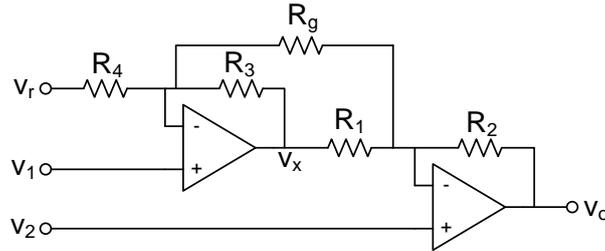
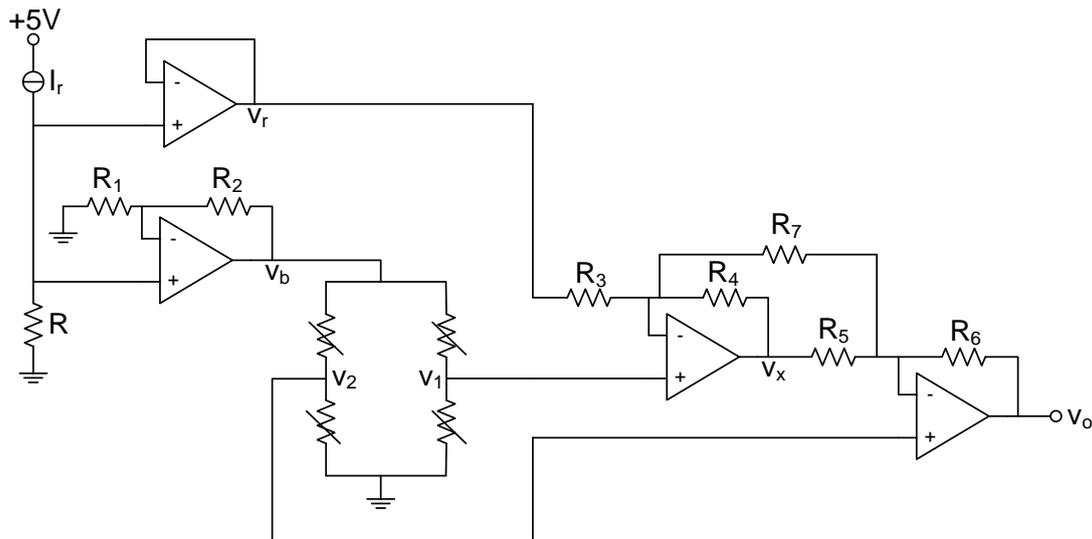

Figure 3: Instrumentation amplifier with two op-amps.
Figure 4: Signal processing circuit for a resistive pressure sensor.
An instrumentation amplifier is a differential amplifier who at the same time has a high input-impedance, a low output-impedance and a high common-mode rejection-ratio (CMRR). The gain of an instrumentation amplifier can typically be changed with a single resistor. Figure 3 shows an instrumentation amplifier that consists of two operational amplifiers. (You may assume that these op-amps have an ideal behavior.)
- (a) Show that the output voltage  $v_o$  of the instrumentation amplifier shown in Figure 3 is equal to:
The instrumentation amplifier from Figure 3 is used to amplify the output signal of a bridge circuit with four strain gauges (see Figure 4). The strain gauges each have a resistance  $R_0$  of  $4000 \Omega$  and a sensitivity of  $1 \text{ mV/psi}$  when a supply voltage of  $12 \text{ V}$  is placed across the strain gauges. The current source delivers a stable current  $I_r = 100 \mu\text{A}$ .